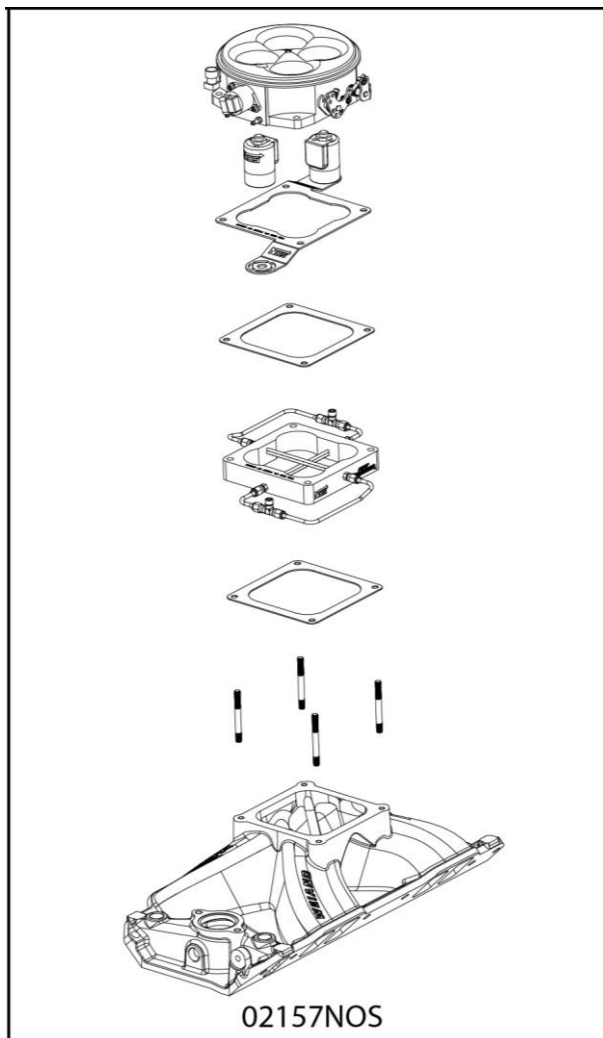

Figure 2 Crosshair™ Plate System Kit 02157NOS—Assembly Drawing
6. Install the extended studs (2).
7. Install the injector plate (1) and gaskets (3) on the intake manifold with "THIS SIDE UP" facing up and toward the front of the engine. See Figure 2 for the illustration of the part installation.
Use the following procedure to install the nitrous solenoids (4). See Figure 2 for the illustration of the part installation.